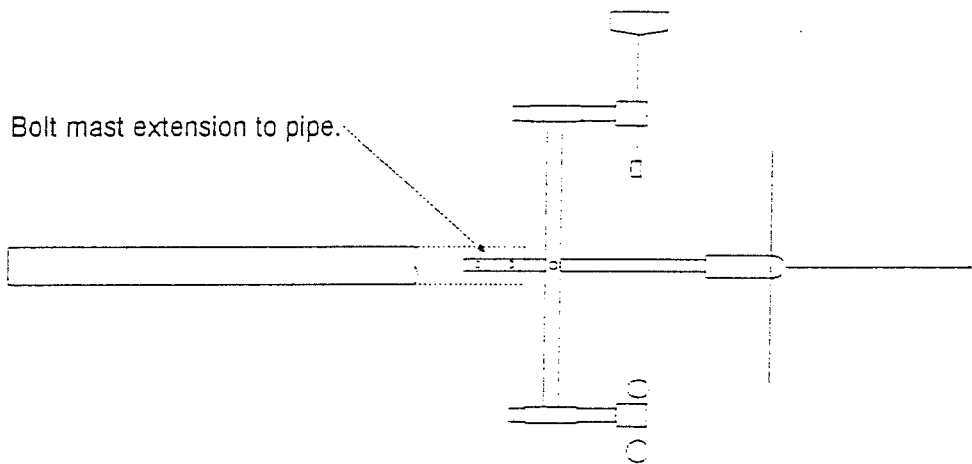

Figure 5-3
2. Slide the mast extension down inside the pipe extension and bolt the wind sensor support assembly to the pipe using the bolts supplied with the mast extension. See Figure 5-3.